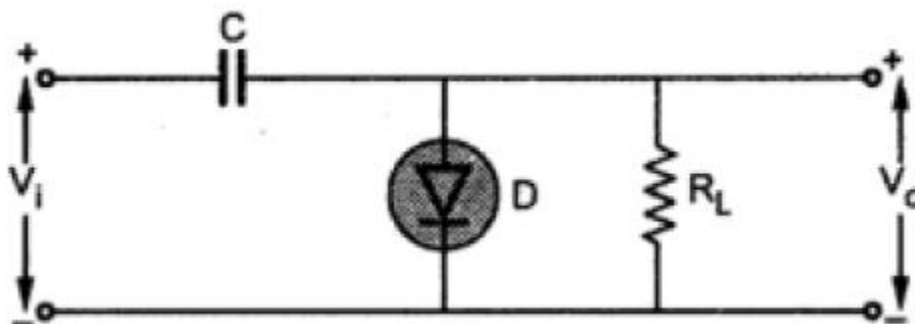

Fig. 2.23 Negative clamper
- A simple negative clamper which adds a negative level to the a.c. output is shown in the Fig. 2.23.